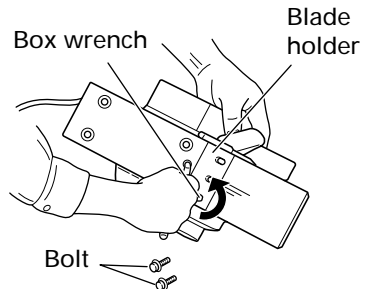

Fig. 6
(1) As shown in Fig.6 use the accessory box wrench to withdraw the three bolts used to retain the cutter blade, and remove the cutter blade holder.